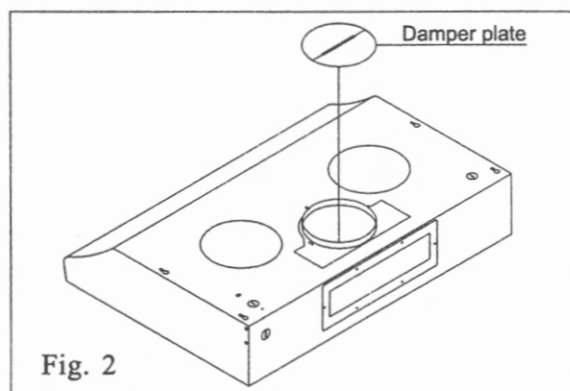

Fig. 2
(1) For round vent (the standard type), please connect the 6" exhaust duct to the round vent off the machine.(Fig2)